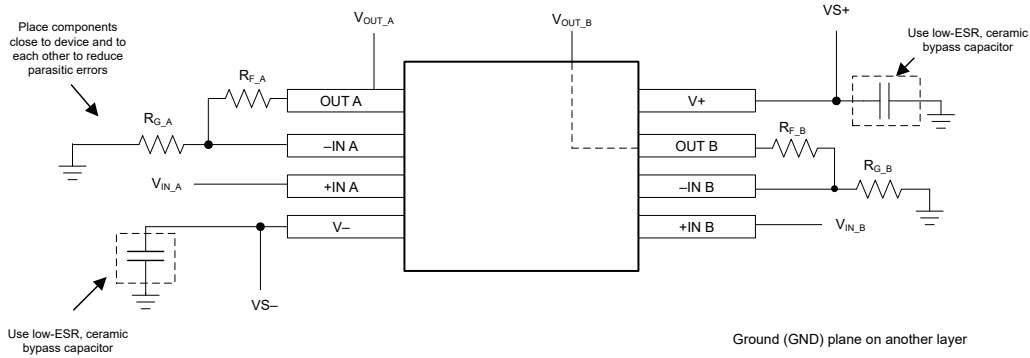

图 7-9. Operational Amplifier Board Layout for Noninverting Amplifier Configuration
- Place the external components as close as possible to the device. As 図 7-9 shows, keep the feedback resistor (R3) and gain resistor (R4) close to the inverting input to minimize parasitic capacitance.